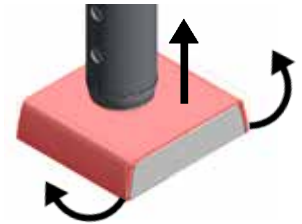

Fig. 3
- ⇒ On the left and right, turn the cover up slightly and push upwards (Fig 3).